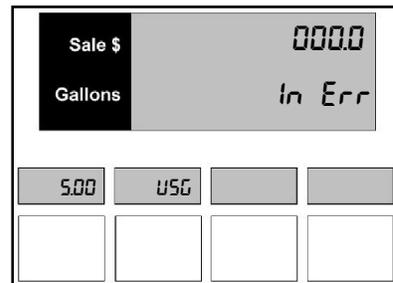

Figure 27.5 – Error Entry
5. Run a sale as close as possible to the test can size entered in step 2 and turn off the pump handle. The display will change to the error entry display as shown in *Figure 27.5*.